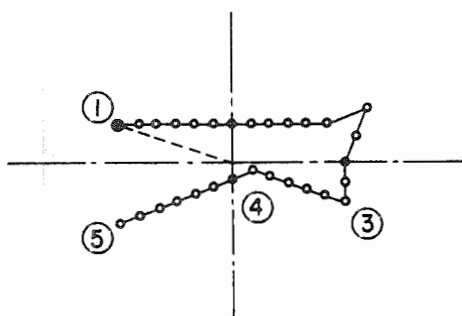

Fig. 7
Step 28 Move the needle using the and keys, and confirm that the needle entry point has been moved and the pattern after the moved point has shifted as illustrated in Fig. 7